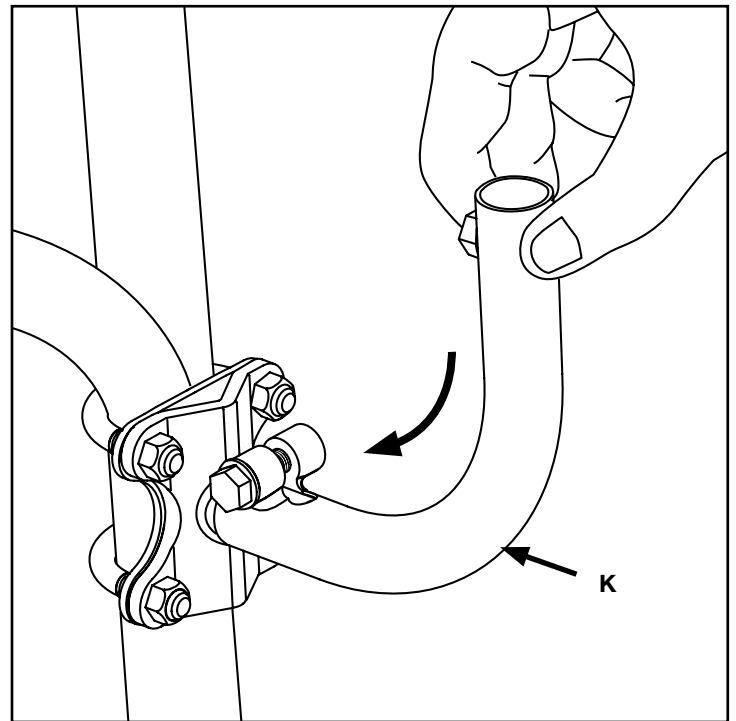

Fig. 3
INSTALL THE LOWER MOUNTING POSTS (FIG. 3)
3. Insert lower mounting posts [K1, K2] into mounting post clamps as shown. Snug but do not fully tighten. Leave the nuts loose for final adjustments of the mounting posts. (Fig. 3)